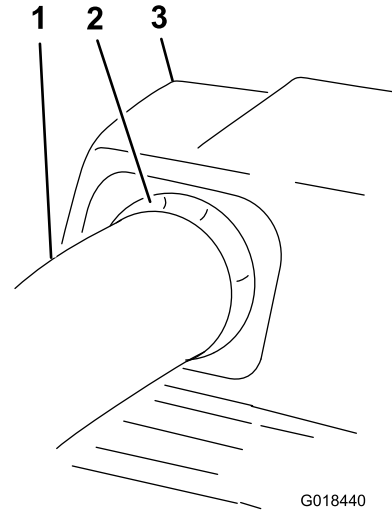

Figure 30
- 10. Pull the upper tube out slightly so that the seal extends outward and over the lower tube (Figure 30).
19. Pull the upper tube out slightly so that the seal extends outward and over the blower assembly (Figure 30).